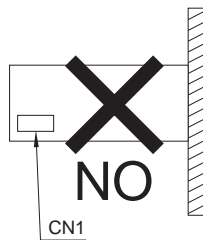

Fig. 4.4 Installation method 2
■ Avoid installation method 2 as shown in Fig. 4.4, which can cause stress on the mounting holes.